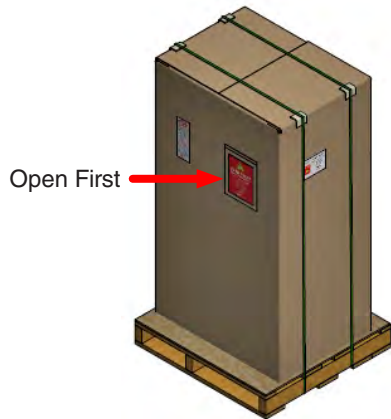

Figure 5.1a: This Crate has a Carton Banded to a Wooden Skid.
- Q-SUN Xe-2 testers are shipped in one of two types of crates (Figure 5.1a and Figure 5.1b).